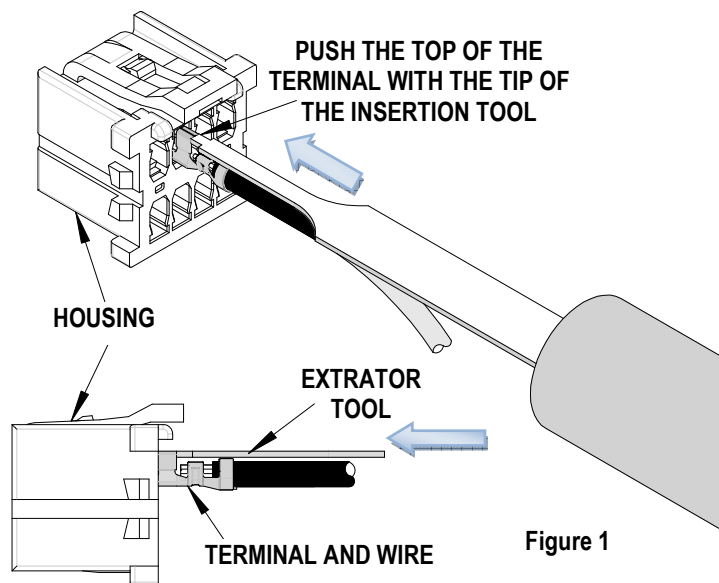

Figure 1
1. The terminal should be partially inserted into the housing. See Figure 1.
1. To properly use this tool, with the flat side facing up, place the step of the tool into the terminal under the locking tangs. See Figure 1. Push the terminal into the housing until the locking tangs are visible through the window. The terminal then should be locked in place.